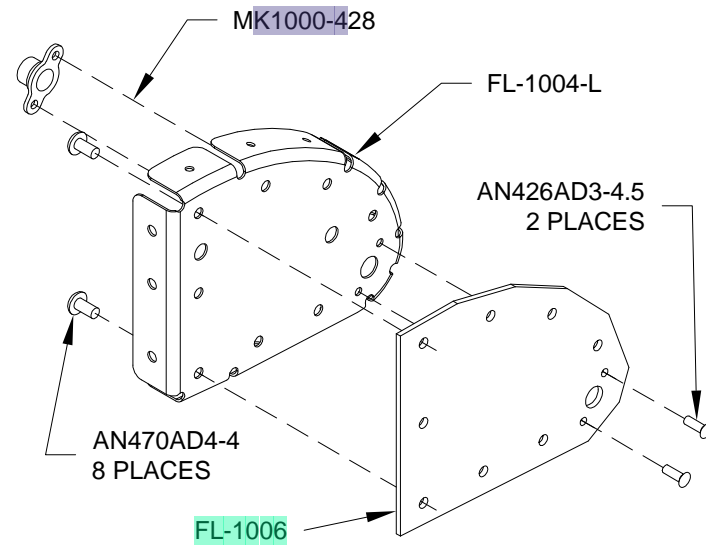

FIGURE 1: OUTBOARD ROD END RIB SUBASSEMBLY
Step 1: Rivet the outboard rod end rib subassembly together using the rivets called out in Figure 1.